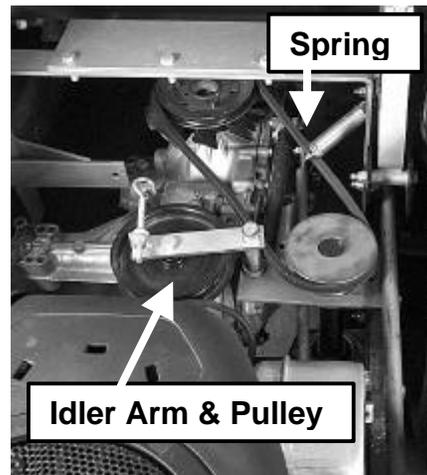

Figure 12: Top Drive Belt -
3. Push the idler arm on the top belt toward the spring to reduce tension, unhook the arm from the spring, and swing the idler pulley away from the belt. (Figure 12)